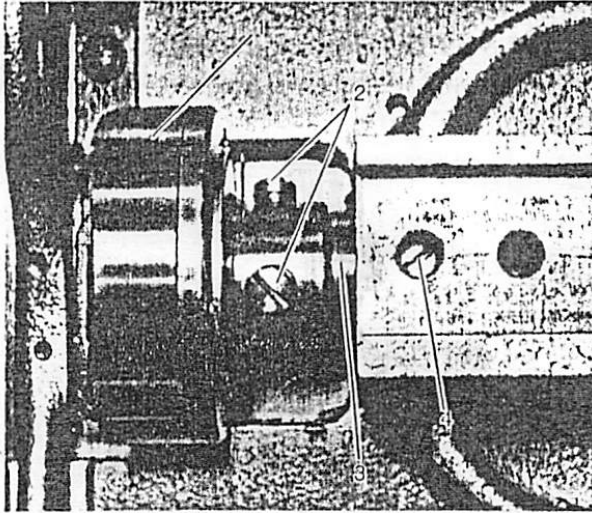
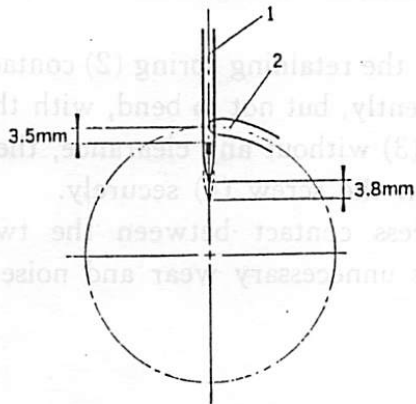

Fig. 33
Fig. 35
Move the bushing (3) to fit snugly to the bottom of the hook like the fig. 33 so that it moves slightly, and tighten the screw securely.
Loosen the hook set screws (2, Fig. 33), turn the hand pulley toward you until the needle bar raises to 3.8 mm from its lowest point.
Bring the hook point (2, Fig. 35) to the center of the needle (1, Fig. 35) by moving the hook and tighten three screws (2, Fig. 33).
This should be made after the timing between the needle and hook has been determined. Turn the balance wheel toward you so as to fit the center of the needle to the hook point (refer to Fig. 35).